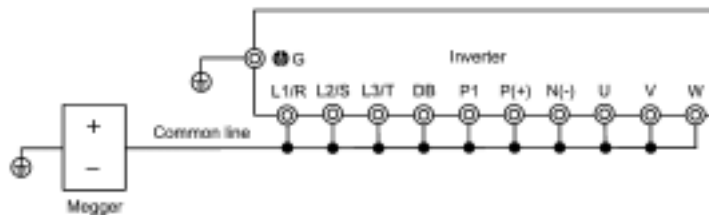

Figure 7.2 Megger Test
- 3) Connect the main circuit terminals with a common cable as shown in Figure 7.2.
- 4) The Megger test must be limited to across the common line of the main circuit and the ground terminal (G).